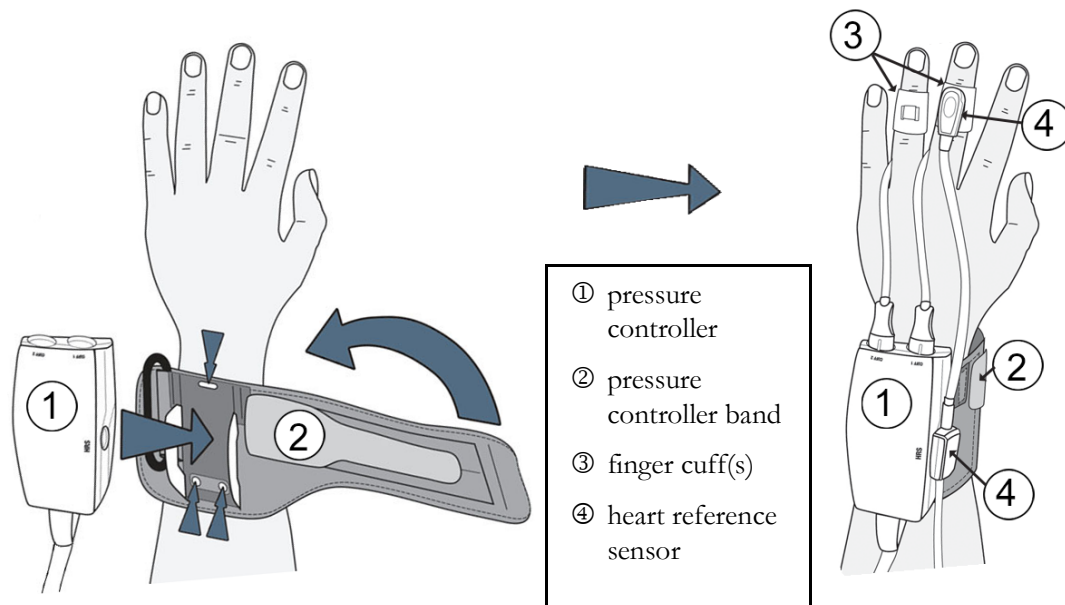

Figure 11-2 Pressure controller application
The pressure controller is worn on the patient's wrist and connects to the HemoSphere ClearSight module, HRS and finger cuff(s). See figure 11-2.
- 1** Wrap the pressure controller band around the patient's wrist. The non dominant hand is preferred for monitoring in awake patients. (figure 11-2, left)